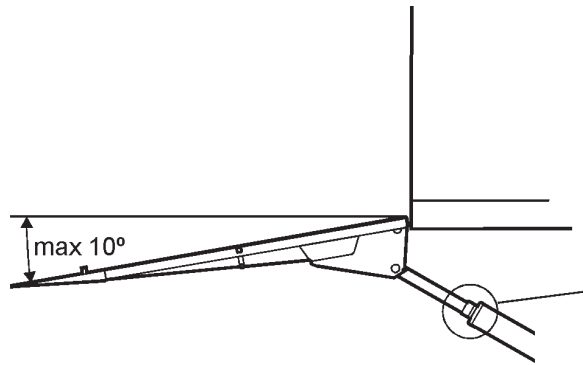

Figure 38. The tilt angle must be adjusted to max.10° down
1. Run the lift up so that the lift is at the floor level, see Figure 38.
3. Tilt down the platform to maximum 10 degrees under horizontal. As per Figure 38.
4. Adjust the ring to the top of the cylinder (4).